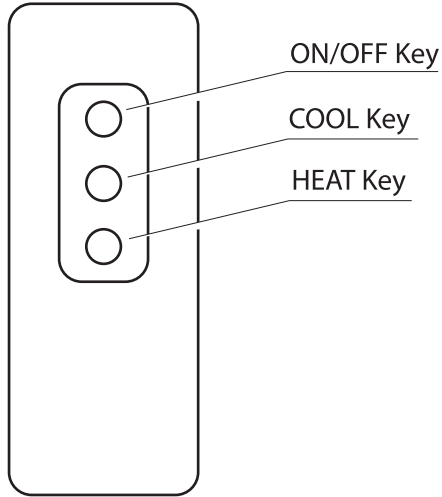

Figure 2 Infrared remote control.
5.2 Air Curtain is controlled by infrared remote control (Fig.2) or ON/OFF key on the front panel of Air Curtain (Fig.2)